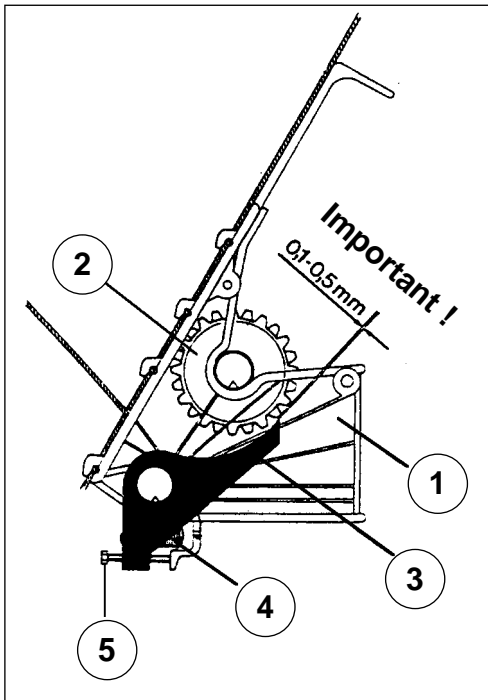

Fig 20
#### 9 Bottom Flaps (Fig 20)
**By turning the metering wheel shaft by hand check the flaps are all set to a gap of 0.1 to 0.5mm (refer Fig 20).**
To adjust individual flaps use the spring tensioning screw (5) (Fig 20).